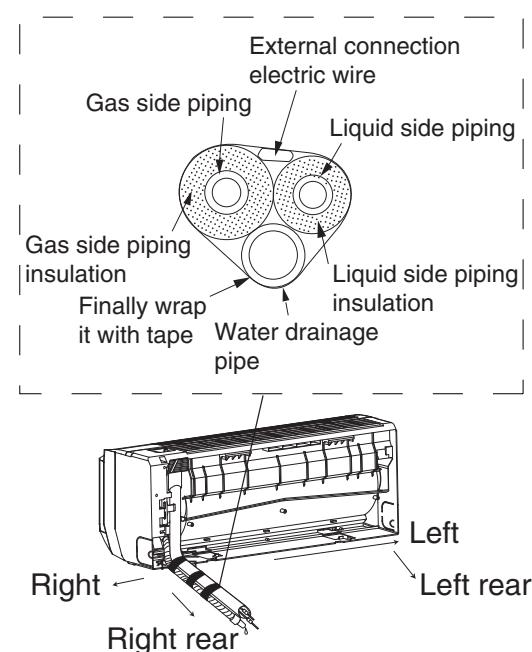

Fig.21
(As show in Fig.21)
5. Connect the refrigerant tubing to the outdoor unit. (After performing a leak test on the connecting part, insulate it with the tubing insulation. (Fig.21) Also, refer to Pg 28, (connecting tubing between indoor and outdoor unit).